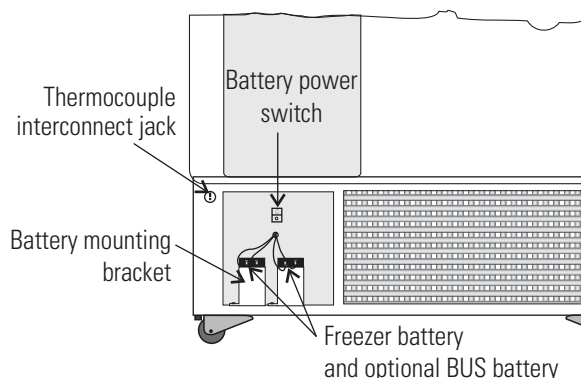

Figure 6-1. Battery Location
2. Locate the grille on the door. See Figure 6-1. Grasp the middle of the grille material and gently pull out to remove.
1. Open the front lower door by grasping the bottom left corner. See Figure 6-1.
3. Turn off the battery switch (O). See Figure 6-1.